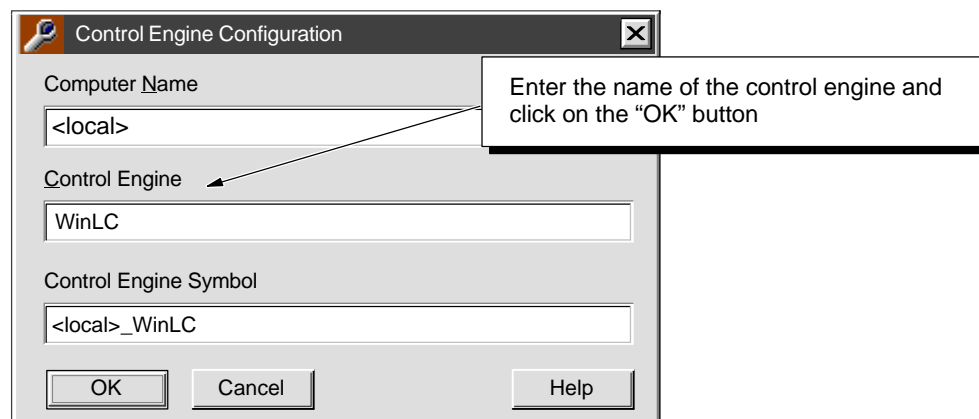

Figure 9-7 Inserting a New Control Engine into the Tag File
1. Select the **Insert ► Control Engine** menu command to display the “Control Engine Configuration” dialog box. See Figure 9-7.